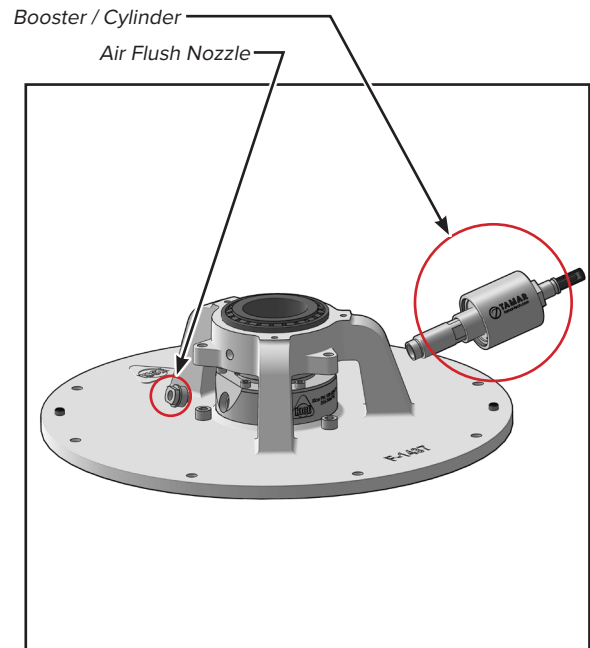

FIGURE 19
7. Remove air flush nozzle from dynamic seal (figure 19).
8. Remove booster/cylinder assembly from the dynamic seal (figure 19).
19. Reinstall air flush nozzle and booster/cylinder assembly (figure 19).